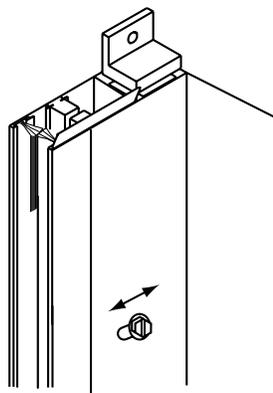

Figure 13
- ⑫ After again checking operation, re-position side channels, if necessary, to properly adjoin the head box. Note that channels that are “drilled for jamb” with the adjustable mounting angles attached are designed to help keep the channels plumb and parallel in non-squared openings. The slots in the mounting angles with the side channel attachment screw allow for an adjustment of up to $\frac{3}{8}$ ". This feature allows the channel to be correctly positioned while allowing the mounting angles to be fastened tight against the jamb (see Fig. 13). For outside mount side channels, there is no surrounding jamb, so proper positioning is easier. Install all fasteners in side channels, being careful to keep channels square to the head box and parallel to each other. After checking fabric alignment and channel positioning, return shade to full open position and re-insert the fabric into the side channels. Be sure that the slat bar at the bottom of the fabric is